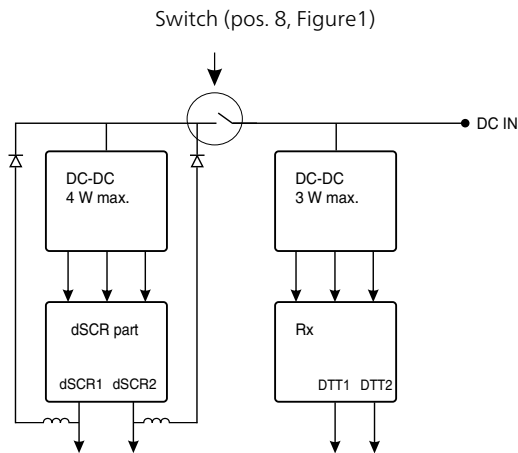

Figure 2. DC path diagram
8. **dSCR part powering mode switch** (see Figure 2):
- Through dSCR outputs (pos. 3, 4)
- Through DC IN (pos. 9)
The receiver can be powered in two ways: from AC/DC adapter through 3.5/1.3 DC connector (pos. 9, Figure 1) or through RF outputs (pos. 3, 4 Figure 1). Use switch (pos.8 Figure 1) to select the correct powering mode (see Figure 2).